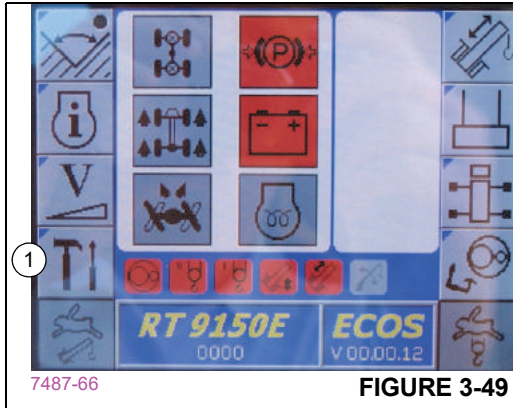

FIGURE 3-49
1. If necessary, open the main menu (*Esc*) and press the F4 button (1) (Figure 3-49) once. The Settings submenu opens (Figure 3-50).